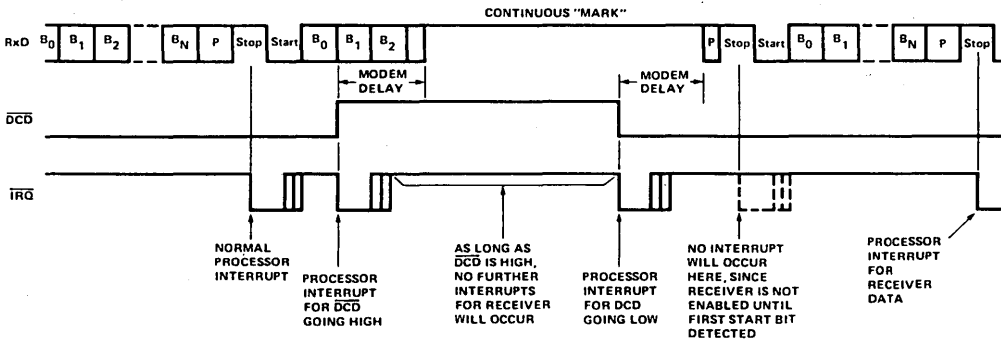

Figure 4-10. EFFECT OF $\overline{\text{DCD}}$ ON RECEIVER
4.1.10 Effect of $\overline{\text{DCD}}$ on Receiver (Figure 4-10)